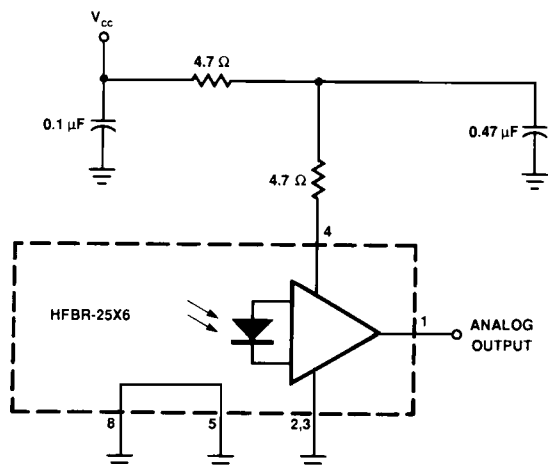

Figure 1. Recommended Power Supply Filter Circuit.
Electrical/Optical Characteristics 0 to 70°C; 5.25 V \geq V_{CC} \geq 4.75 V; power supply must be filtered (see Figure 1, Note 2).
- The signal output is an emitter follower, which does not reject noise in the power supply. The power supply must be filtered as in Figure 1.